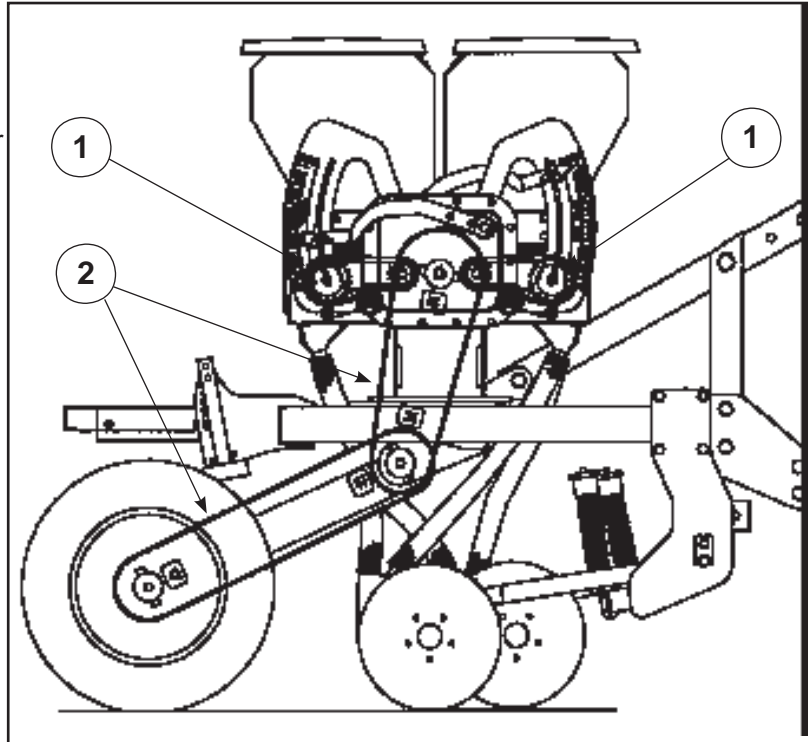
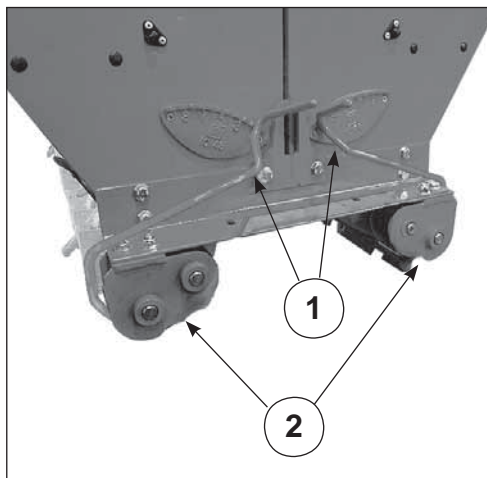

Fig 19
Fig 21
Pedestal and agitator drive chains (1) Fig 19 & (2) Fig 21 should first be checked after 20 hours of operation and thereafter every 200 hours of operation as follows:-
Drive cassettes (2) Fig 19 are fully enclosed and therefore dirt build up around the chain is less likely. A pre-season internal inspection of the drive cassettes is recommended to ensure the chain and sprockets are in good working order. The drive cassettes pivots should be greased weekly to keep the plastic bushes and housings lubricated. Regular greasing will also flush out contaminants from the running surfaces.
Put the bottom flap setting levers (1) (located on the LH end of the seed boxes) in position "1" for the front box and position "1" for the rear box. Refer Fig 21.